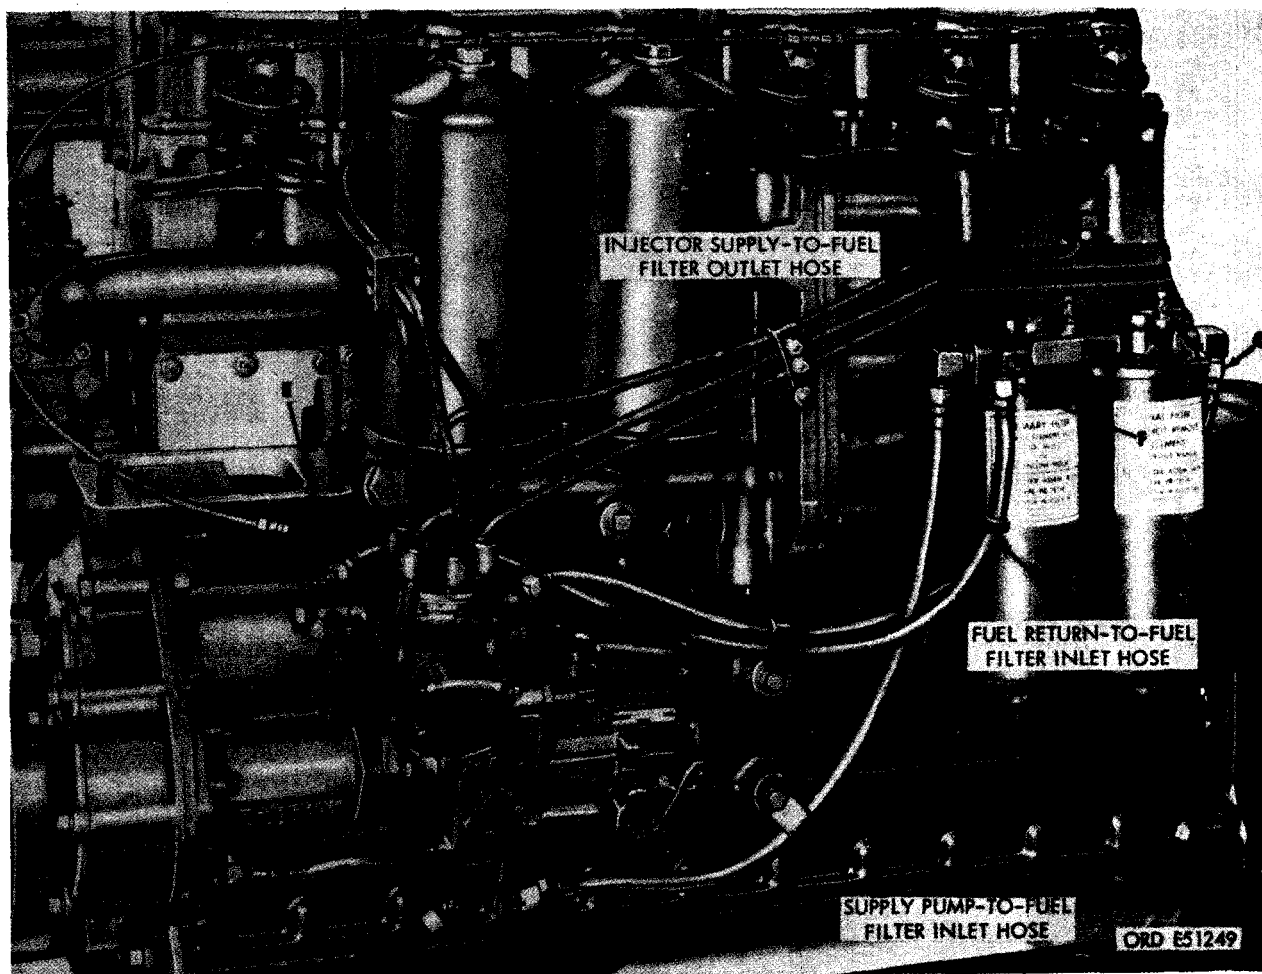

FIGURE 511. CONNECTING FUEL HOSES (LATE MODEL ENGINES).
- (1) Figure 511. (A) Connect end of 25-inch long fuel supply pump-to-fuel filter inlet hose to 90 degree elbow at fuel filter inlet. (B) Connect other end of hose to 90 degree elbow at fuel supply pump outlet. (C) Connect one end of injector supply-to-fuel filter outlet hose to 90 degree elbow at fuel filter outlet. (D) Connect other end of hose to 45 degree elbow in fuel injection pump hydraulic head. (E) Connect one end of fuel return-to-fuel filter inlet hose to 45 degree elbow in overflow return tee. (F) Connect other end of hose to 90